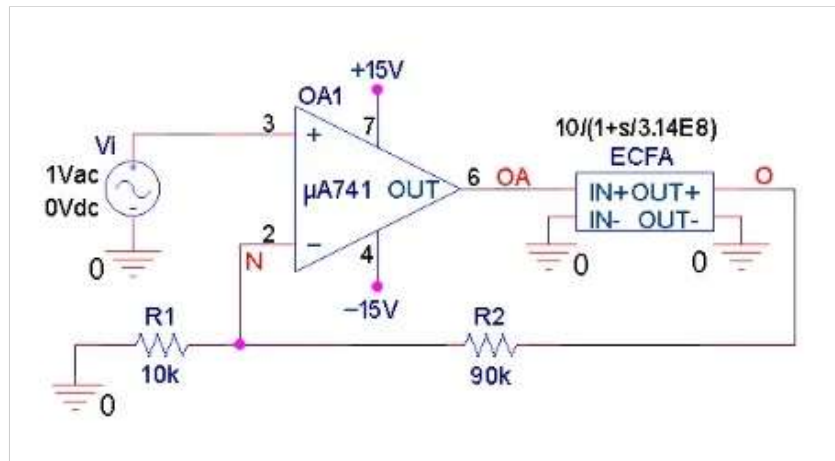
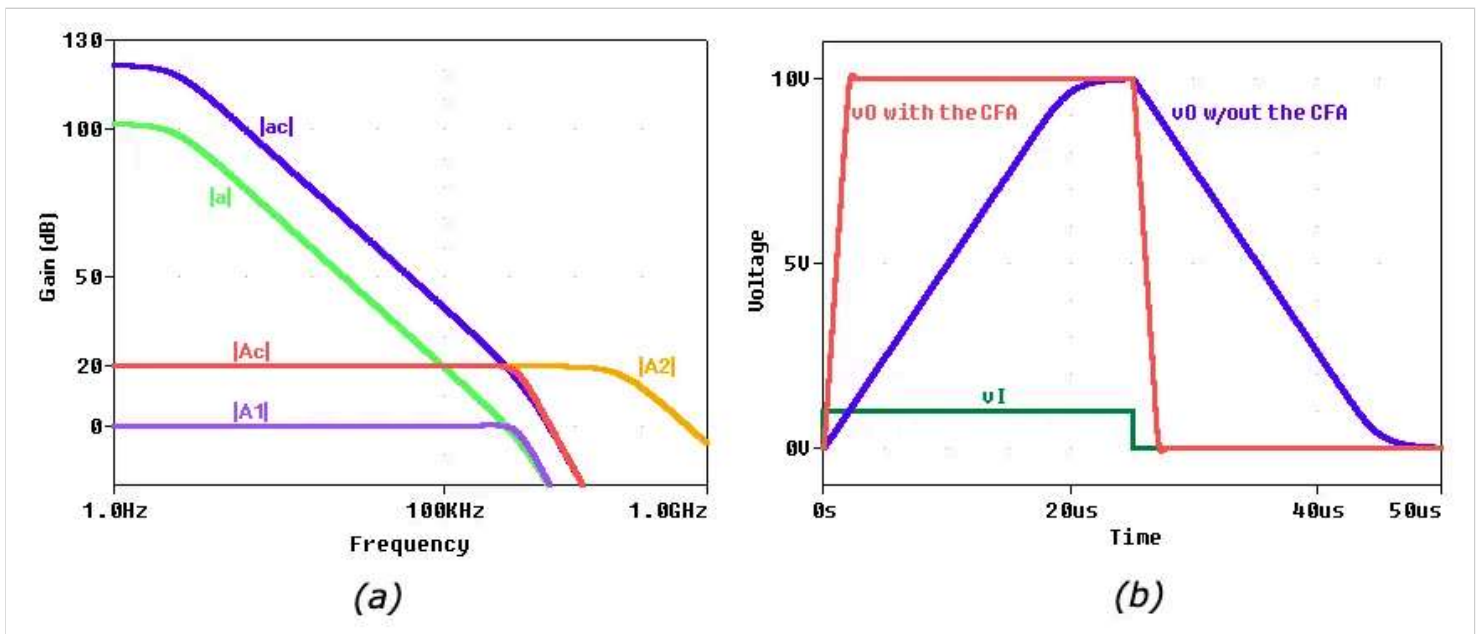

Figure 2. A composite amplifier to raise the SR of the 741 op-amp.
Figure 3. Plots for the PSpice circuit of Figure 2 showing the situation in (a) the frequency domain and in (b) the time domain.
To gain better insight, consider the PSpice circuit of Figure 2, simulating a 741 op-amp and using a Laplace block to simulate a CFA configured for $A_{20} = 10 \text{ V/V}$ ($= 20 \text{ dB}$) and $f_2 = 50 \text{ MHz}$. In this example, we have applied the above equation with the “=” sign.
With reference to Figure 3(a), we find it instructive that OA_1 has to amplify only by 0 dB, whereas the amplification by 10 V/V is done by the CFA. Smaller output voltage swings by OA_1 ought to ameliorate the slew-rate (SR) considerably.
Sure enough, the time response of Figure 3(b), obtained by changing the input source of Figure 2 to a pulse type, confirms our expectation. In the absence of the CFA, the 741 would take about 20 μs to swing by 10 V, so $\text{SR} = 10/20 = 0.5 \text{ V}/\mu\text{s}$, in accordance with the datasheet. With the CFA in place, the SR of the composite amplifier is an order of magnitude faster, or about 5 $\text{V}/\mu\text{s}$.